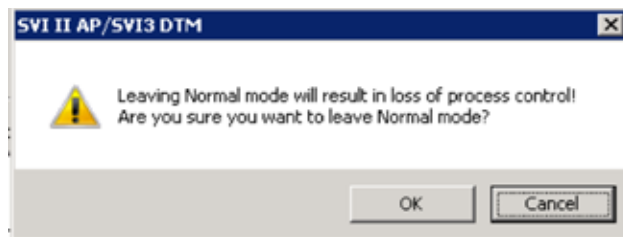

Figure 27 Leaving Normal Mode
- Click the mode. When leaving *Normal* mode a dialog appears (Figure 27).